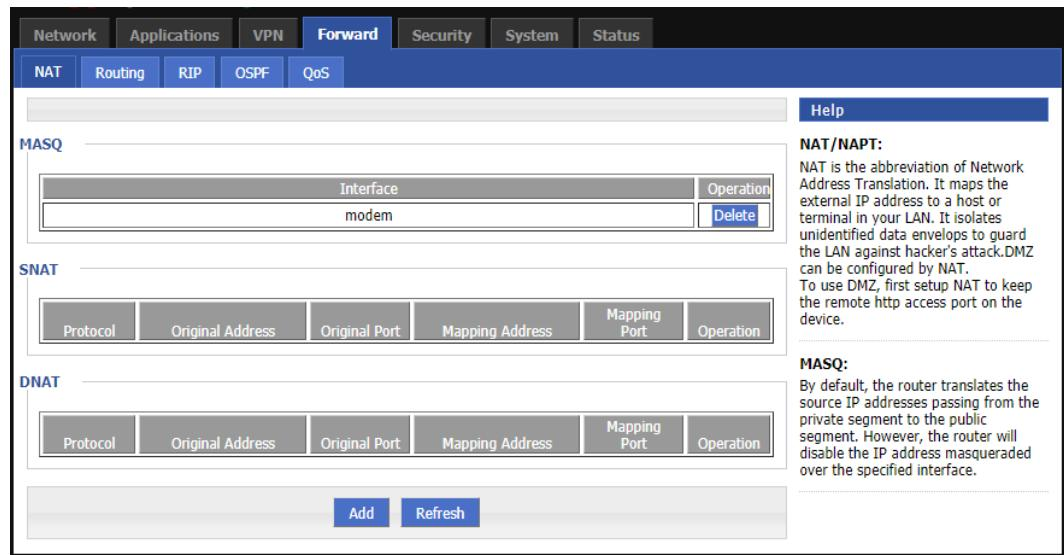

Figure 5-34 NAT tab
Step 2 Click Forward Settings>NAT to open the NAT tab, as shown in Figure 5-34.
- Step 2 Click Forward Settings>NAT to open the NAT tab, as shown in Figure 5-34.